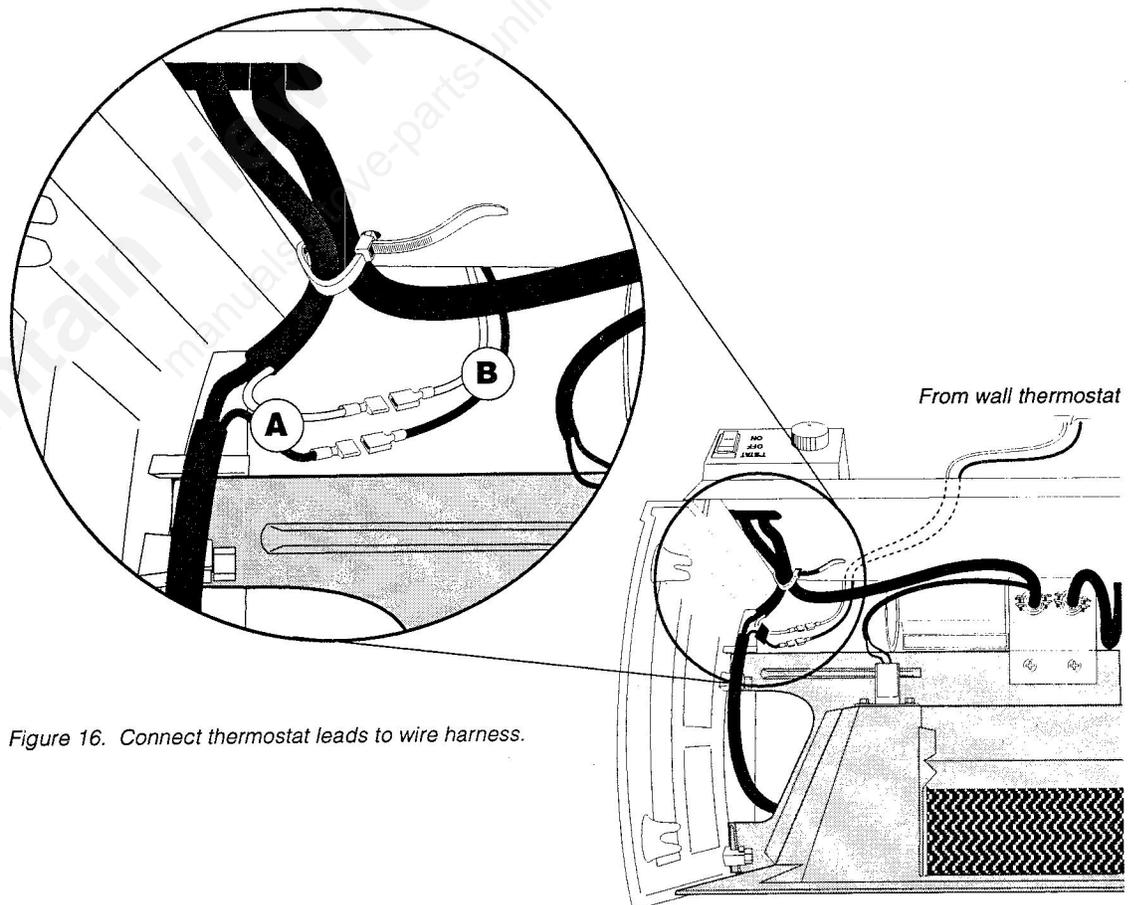

Figure 16. Connect thermostat leads to wire harness.
3. Locate the two loose thermostat wires leading from the wire harness, (A, Fig. 16). Crimp the wall thermostat leads (B) to the spade connectors included in the parts bag.